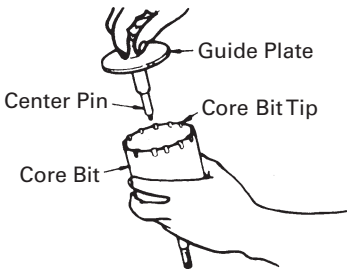
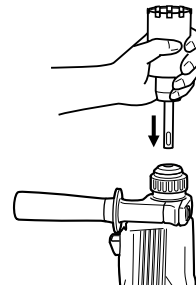

Fig. 19
Fig. 18
- (2) Mount the core bit shank to the rotary hammer. (Fig. 18)
- (3) Insert the center pin into the guide plate until it stops.
- (4) Engage the guide plate with the core bit, and turn the guide plate to left or right so that it does not fall even if it faced downward. (Fig. 19)